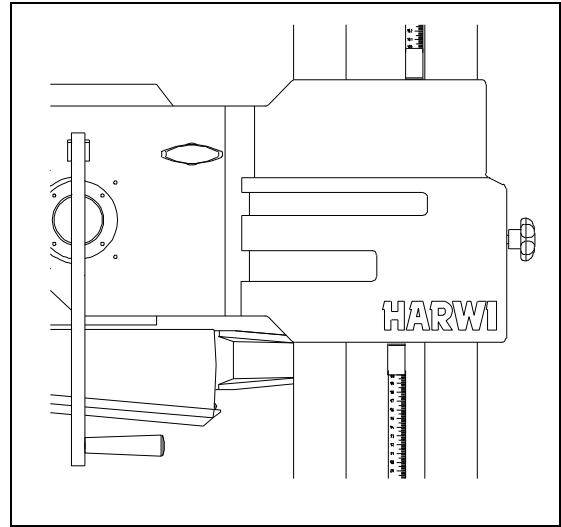

Figure 16
- 2 Set the correct height by means of the scale on the slideway (Figure 16).